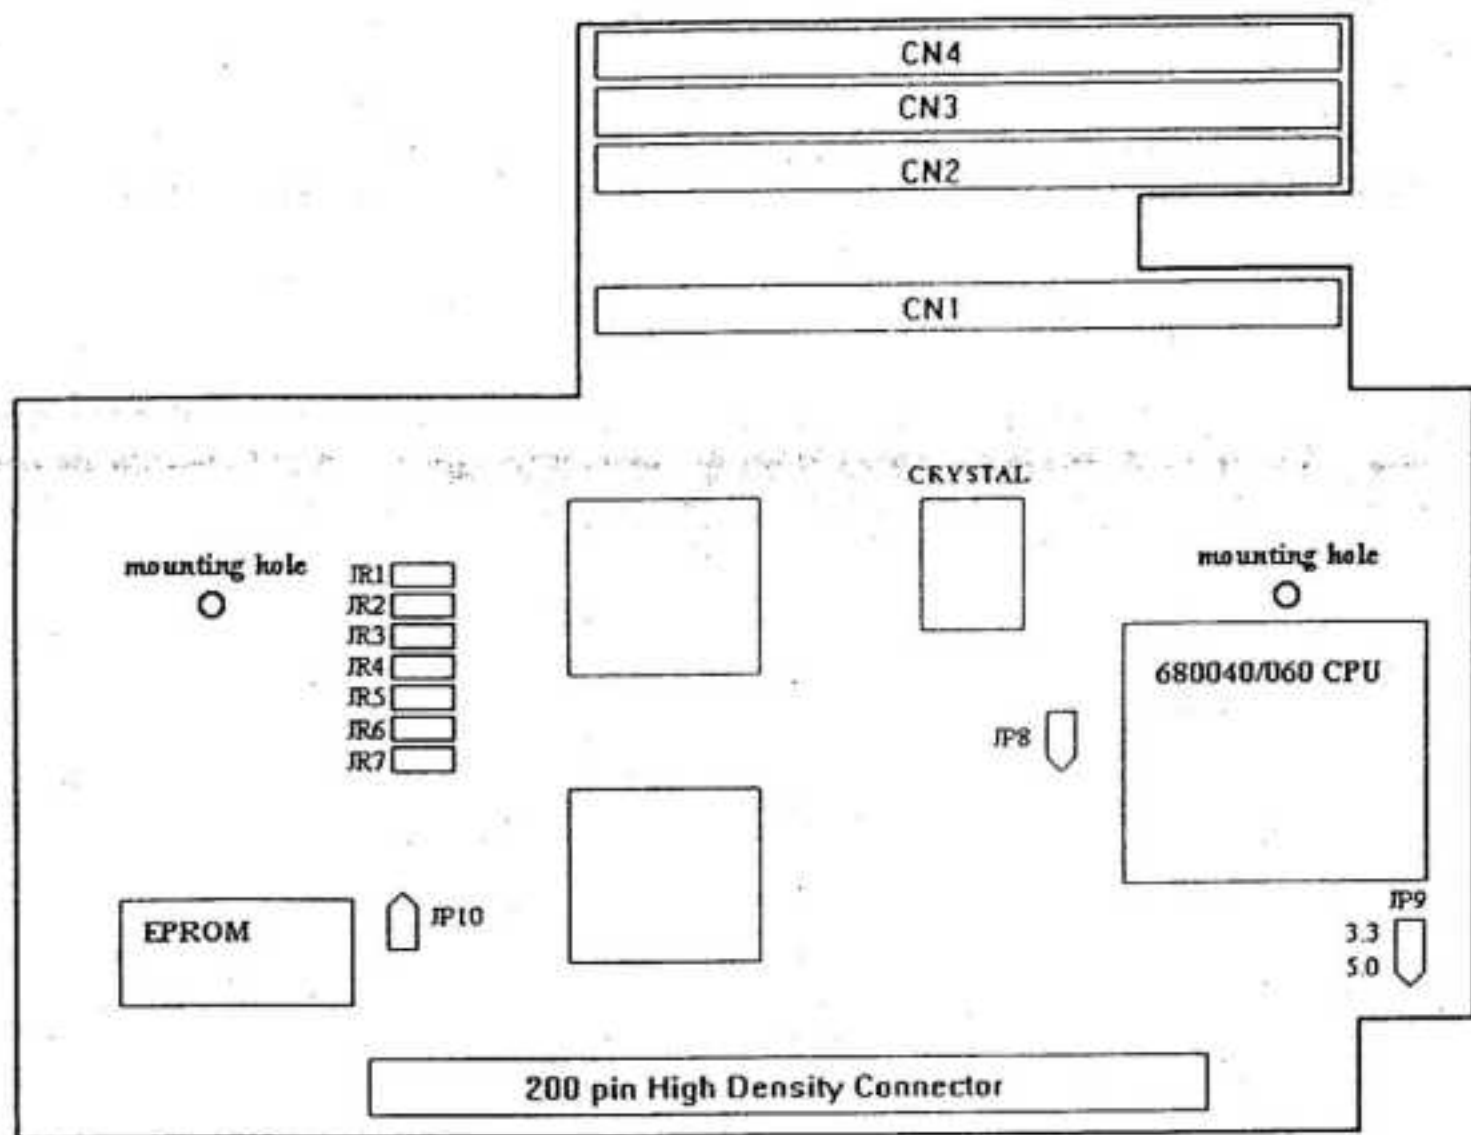

Figure 3.3 - A4000T Board Layout
The A4000T-040/060 accelerator has four SIMM sockets (CN1-CN4) which are located on the upper half of the component side of the board (See figure 3.3) The board is designed to support "burst mode" and EDO type DRAMs in SIMM sizes of 4MB, 8MB, 16MB and 32MB (parity is not required) However, in order for the board to function properly the board must be configured correctly and several limitations must be observed for optimal performance. These configurations and limitations are discussed in the following sections.
As stated previously, there are four DRAM SIMM sockets on the A4000T-040/060 accelerator, comprising the upper part of the board. (See Figure 3.3) The operating system will automatically sense whether a SIMM is installed in each socket and will add this memory to the system accordingly.
- 2) Lay the accelerator board on the anti-static envelope in which it was packaged the way that it is displayed in figure 3.3.
The SIMMs are designed to fit into the sockets in only one way. Pin 1 of each SIMM is keyed with a notch and will only fit properly if this notch matches the corresponding key of the SIMM socket. Looking at the board as shown in figure 3.3 all socket keys are on the left side of the board. Orient each SIMM so that the notch or pin 1 is on your left and the edge with the silver contacts is pointing down. Simply slide the SIMM in on an angle, rotate it up, and snap it into place.